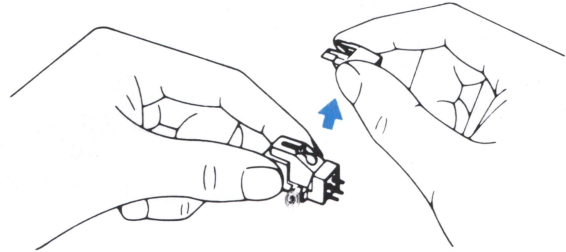

Fig. 9
- 2** Replacing the stylus: To assure distortion-free reproduction, replace the diamond stylus after 1000/2000 LP plays. To remove the old stylus, pull out the stylus assembly as in Fig. 9. Replace with a new stylus (available from Fisher Service Center).